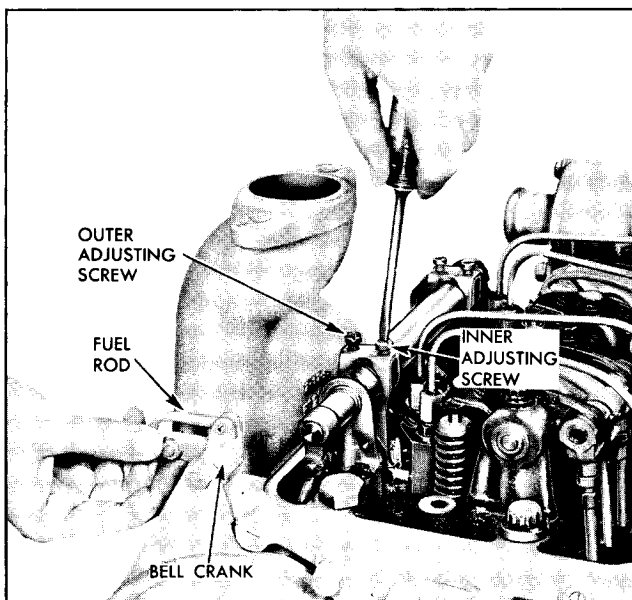

Fig. 1 - Positioning Injector Rack Control Levers
3. Position the adjusting screws of the rear cylinder, Fig. 1, until both screws are equal in height and tight on the control tube.
If the clearance is insufficient, loosen outer control rack adjusting screw, Fig. 1, and tighten inner adjusting screw until a clearance of $1/16''$ is present. Tighten both inner and outer adjusting screws.